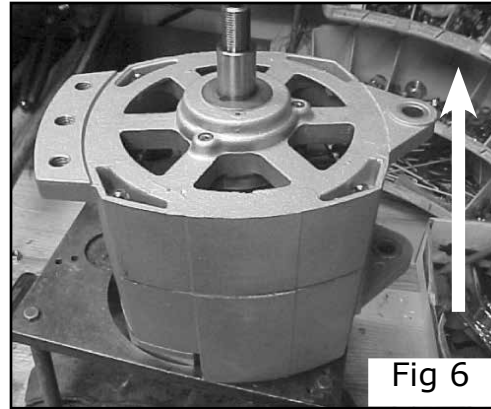

Fig 6
Step 4: Lift front housing splitting alternator. (Fig 6)